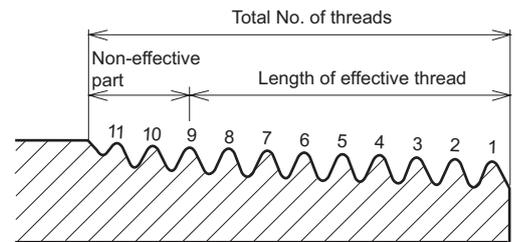

Fig. 57
- Confirm whether the thread length is as it should be according to the number of threads as shown in Fig. 57 below.